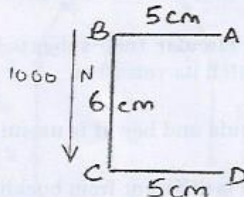

Fig.12(a)
12. (a) Locate the shear centre of the thin-walled channel section subject to a vertical shear load of  $1000 \text{ N}$  as shown in Fig. 12(a).  $t = 2 \text{ mm}$ .